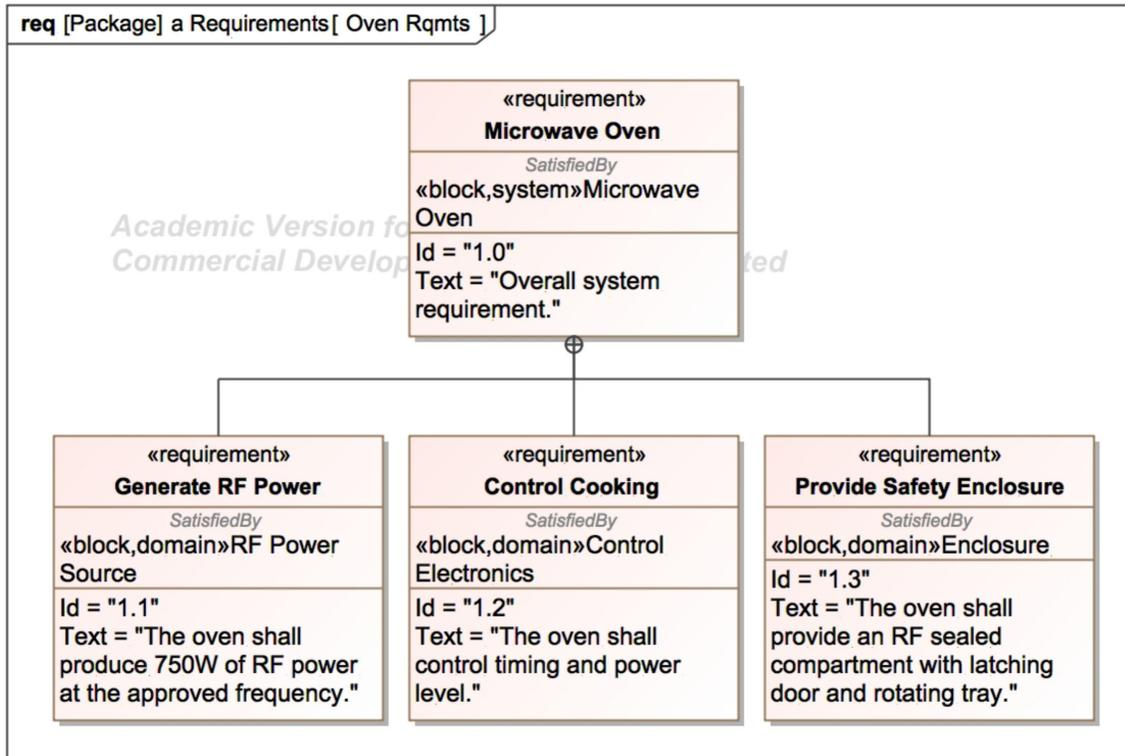

Figure 17. Requirements Diagram
- A Requirement Diagram (RD) is a modified BDD, and so we covered Blocks in general first, even though many System Engineers would start with requirements. We will also look at a variety of Tables associated with requirements. Fig. 17 shows a simple RD from the microwave oven model.
- D. The steps to create the Diagram in Fig. 17 are:
- There are two kinds of requirement decomposition: Containment relationships and <<deriveRqmt>> relationships. The first, used in Fig. 17,